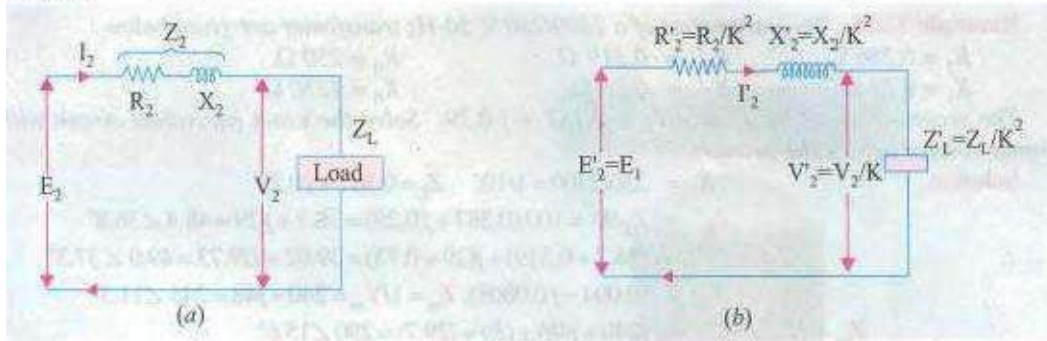

Fig. 32.38
The secondary circuit is shown in Fig. 32.38(O) and its equivalent primary values are shown in fig.